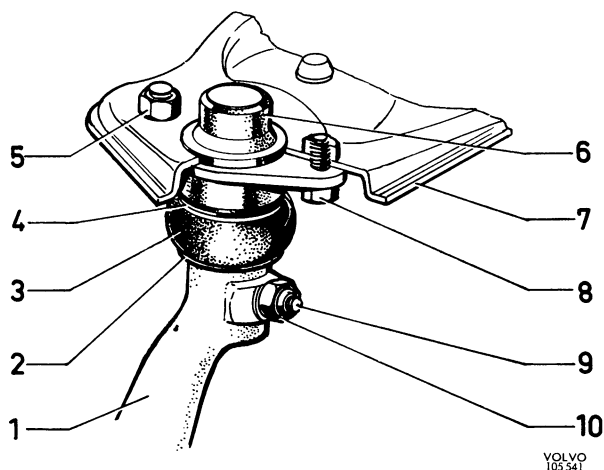

Fig. 6-24. Upper ball joint attachment
3. Unscrew the nuts (5, Fig. 6-24) and remove the bolts (8). Lift off the upper wishbone (7).
4. Unscrew the nut (10) and remove the bolt (9). Remove the upper ball joint (6) together with sealing washer and rubber cover from the steering knuckle.
1. Check to make sure that the rubber seal is not damaged and is filled with grease. If necessary, top up with universal grease. Make sure that the sleeve and lock rings are properly located. see Fig. 6-24.
4. Remove the nuts (5, Fig. 6-24) and the attaching bolts (8) for the upper ball joint and lift off the upper wishbone.